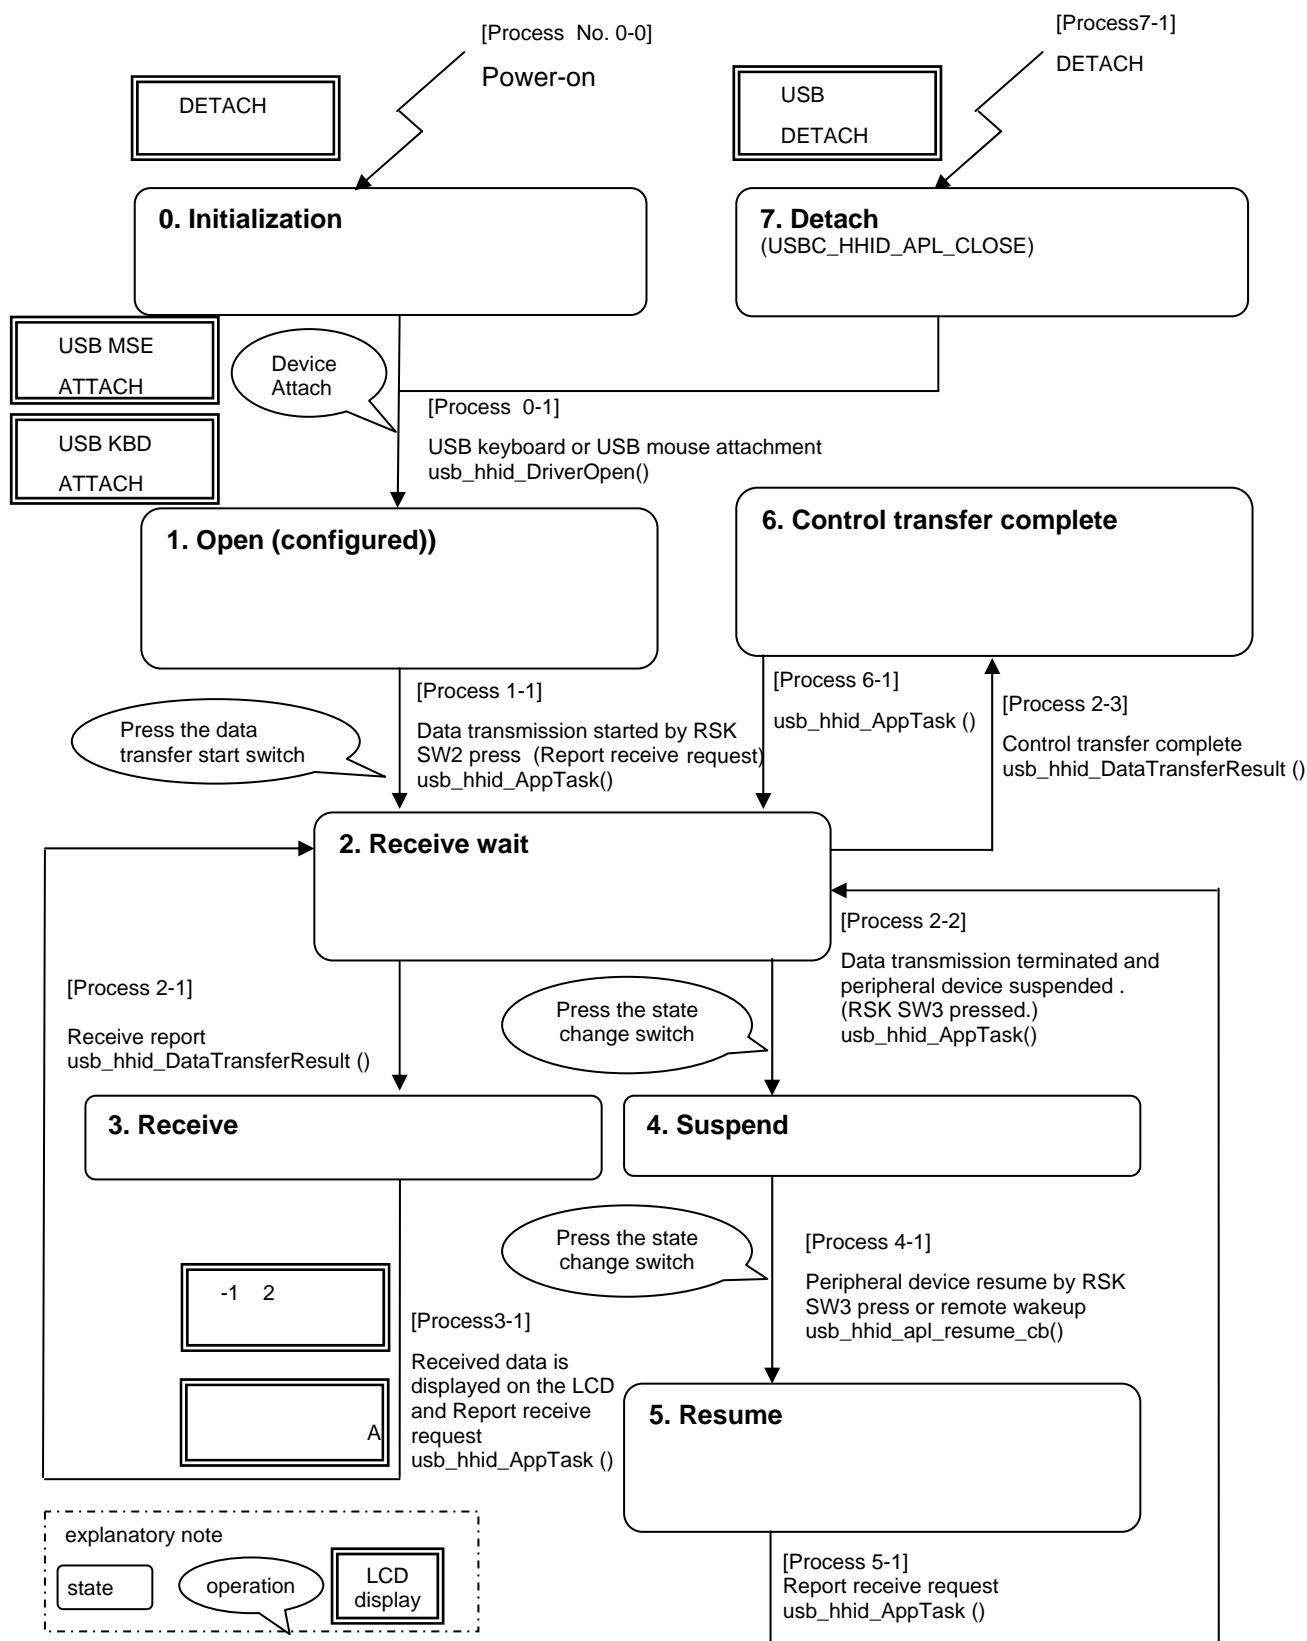

Figure 4.2 Application State Transitions
Figure 4.2 shows the application state transition. Each block is a program “state”.
The following lists application operation with respect to Figure 4.2.
(1). Operating Mode Switching (Process No. 0-1 in Figure 4.2)
(2). Data Communication Start (Process 1-1 in Figure 4.2)
(3). Operation during Suspend state (Process 2-2 in Figure 4.2)
(4). Operation during Resume (Process 4-1 in Figure 4.2)
(5). Operation during Data Communication (Process 3-1 in Figure 4.2)